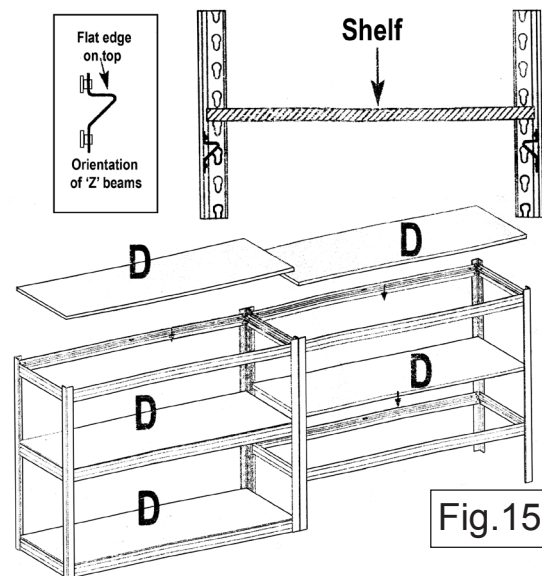

Fig.15
4.13 See Fig.15. Lay the shelves into position between the 'Z' beams as shown above.